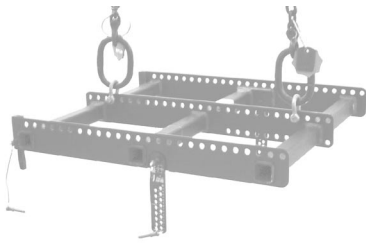

Fig. 10: Dual hoist set up
- Using two E6507 1t Shackles connect one Z5155 Q Hoist connector chain to a hole at the front of the Z5159 Q Flying frame centre bar and one to a hole at the back of it (Fig. 10). The vertical aiming of the array will be set by trimming the hoist motors after the array is fully assembled.